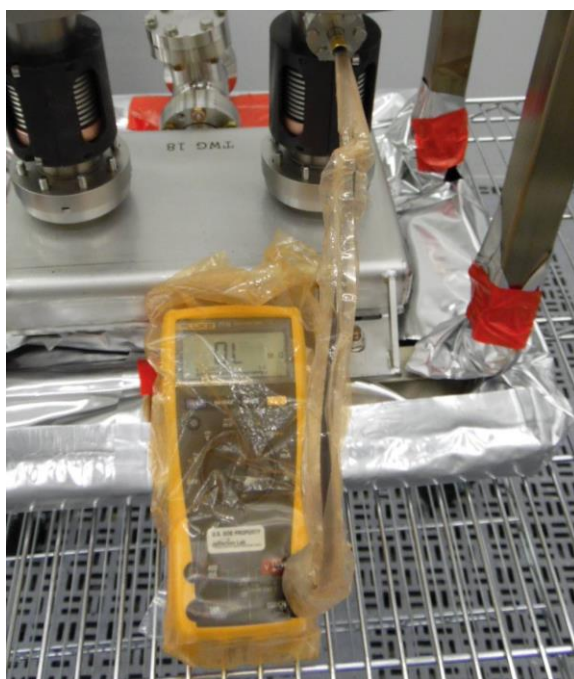

Figure 5.1: Multimeter reading of Electron Probe
- 5.1.1. Connect the multimeter cable to each FPCC in turn. The resistance value should read infinity (Figure 5.1). Otherwise, generate an NCR.